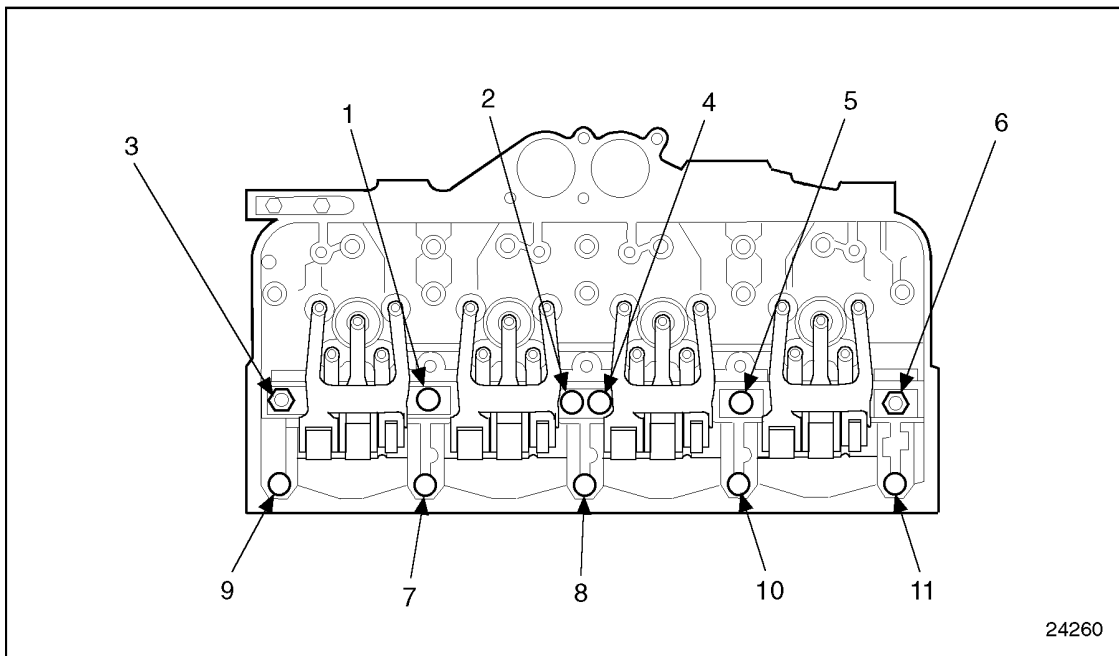

Figure 1-314 Camshaft Cap and Rocker Arm Shaft Bolt and Nut Torque Sequence
9. Torque the 9 camshaft cap bolts and two nuts to 101-116 N·m (75-85 lb·ft) using the sequence. See Figure 1-314.